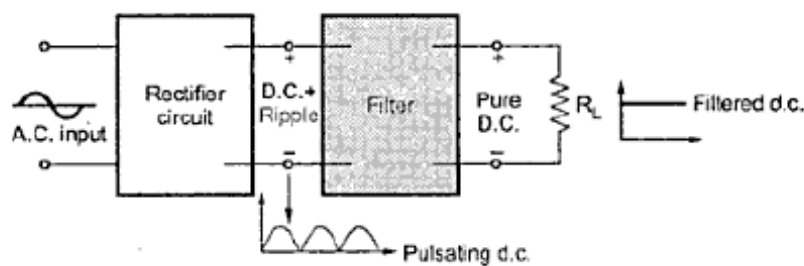

Figure 1.17: Filter Circuit
The output from a half-wave or full-wave rectifier circuit isn't a pure direct current (DC); it contains unwanted fluctuations known as ripple. To reduce these ripples, filter circuits are introduced. These filters are placed between the rectifier and the load to help smooth the output is shown in Figure 1.17. Filter circuits are used at the output of rectifiers